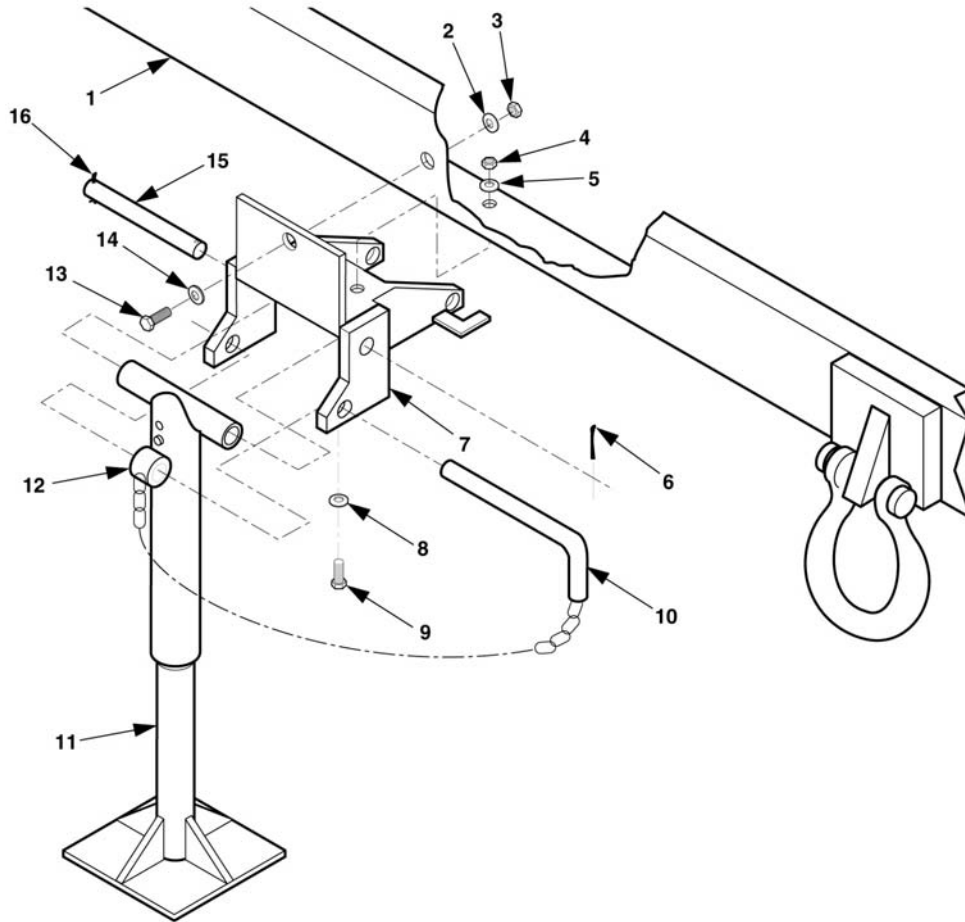

Figure 4-27. Rear Leveling-Support Jack Replacement, 1 Ton Trailer.
2. Turn leg base (11, figure 4-27) to take weight off leg prop.
3. Remove either one of two cotter pins (16 or 6) from pivot shaft (15) and discard.
4. Hold leg base (11) steady and remove pivot shaft (15) with remaining cotter pin (16 or 6) in place.
5. Lift leg base (11) slightly to take weight off retaining pin (10) and remove retaining pin (10). Move leg base (11) and attached parts out of bracket (7).
6. Remove two self-locking nuts (4), four flat washers (5 and 8), and two cap screws (9).
7. Remove self-locking nut (3), two flat washers (2 and 14), and cap screw (13). Remove bracket (7) from trailer chassis (1).
1. Install bracket (7, figure 4-27) on trailer chassis (1), with flat washer (14) and cap screw (13), through mounting hole in bracket (7) on trailer chassis (1).
2. Install flat washer (2) and a new self-locking nut (3) on cap screw (13).
3. Install cap screws (9), flat washers (8 and 5), and new self-locking nuts (4).
4. Position leg base (11) and attached parts in bracket (7) and install retaining pin (10).
5. Position leg base (11) and install pivot shaft (15).
6. Install new cotter pin (16 or 6) in pivot shaft (15).
- a. Clamp leg assembly in a vise with spring pin (2, figure 4-27) facing up.
- b. Drive the spring pin (2) out of upper leg (1) and remove leg base (4).
- c. If defective, remove lubrication fitting (3).
- d. Inspect upper leg (1) and leg base (4) for damage. If either needs to be replaced, replace entire trailer rear leveling-support jack.